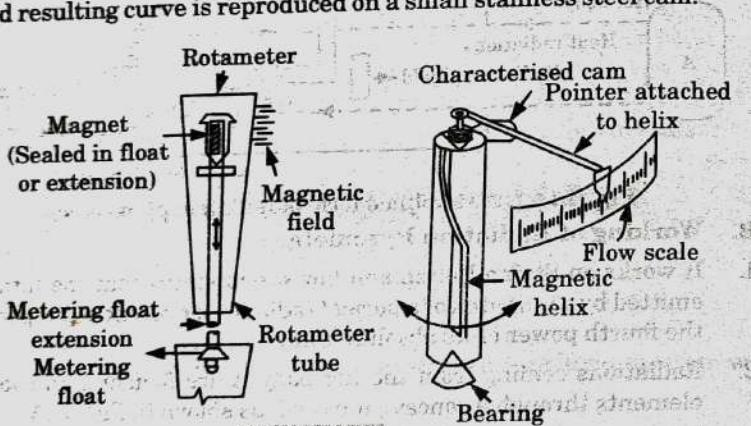

Fig. 4.12.1.
1. Rotameter can measure the flow of both liquids and gases. Its operations is based on the variable area principle, where the flow raises a metering float in a tapered tube by increasing the area for passage of flow as shown in Fig. 4.12.1. The greater the flow, the higher the float is raised. Thus float height is directly proportional to flow rate.